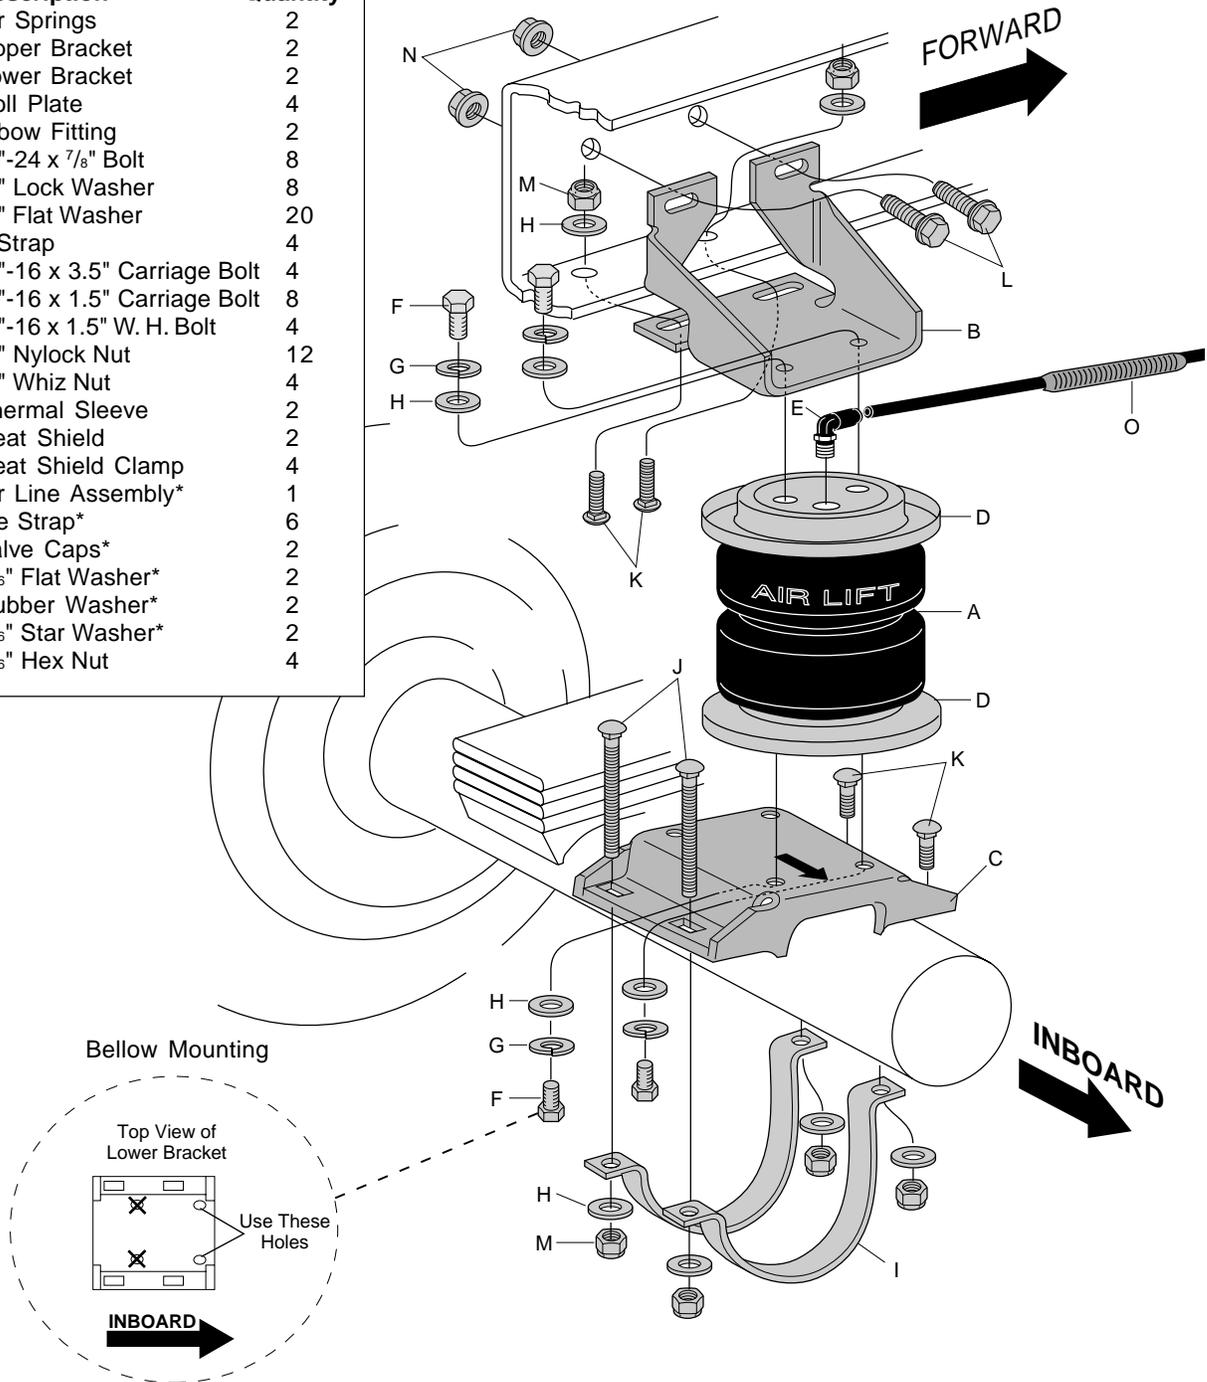

Figure 1
2. Install the roll plates (D) to the top and bottom of the bellow (A).
3. In the forward holes on the lower bracket, insert two  $\frac{3}{8}" \times 1.5"$  carriage bolts (K). In the rearward holes on the lower bracket, insert two  $\frac{3}{8}" \times 3.5"$  carriage bolts (J). NOTE: Be sure the rounded head of the carriage bolts faces the bellow (Figure 1).
4. Attach the lower bracket (C) to the bottom of bellows using two  $\frac{3}{8}" \times \frac{7}{8}"$  bolts (F), two  $\frac{3}{8}"$  lock washers (G), and two  $\frac{3}{8}"$  flat washers (H). See Figures 1 & 4.
6. Attach the upper bracket (B) to the top of the bellows with two  $\frac{3}{8}" \times \frac{7}{8}"$  bolts (F), two  $\frac{3}{8}"$  lock washers (G), and two  $\frac{3}{8}"$  flat washers (H). See Figure 1.
4. Secure the lower bracket with the two J-straps (I) and corresponding nuts, bolts, and washers (Figures 1 & 4).